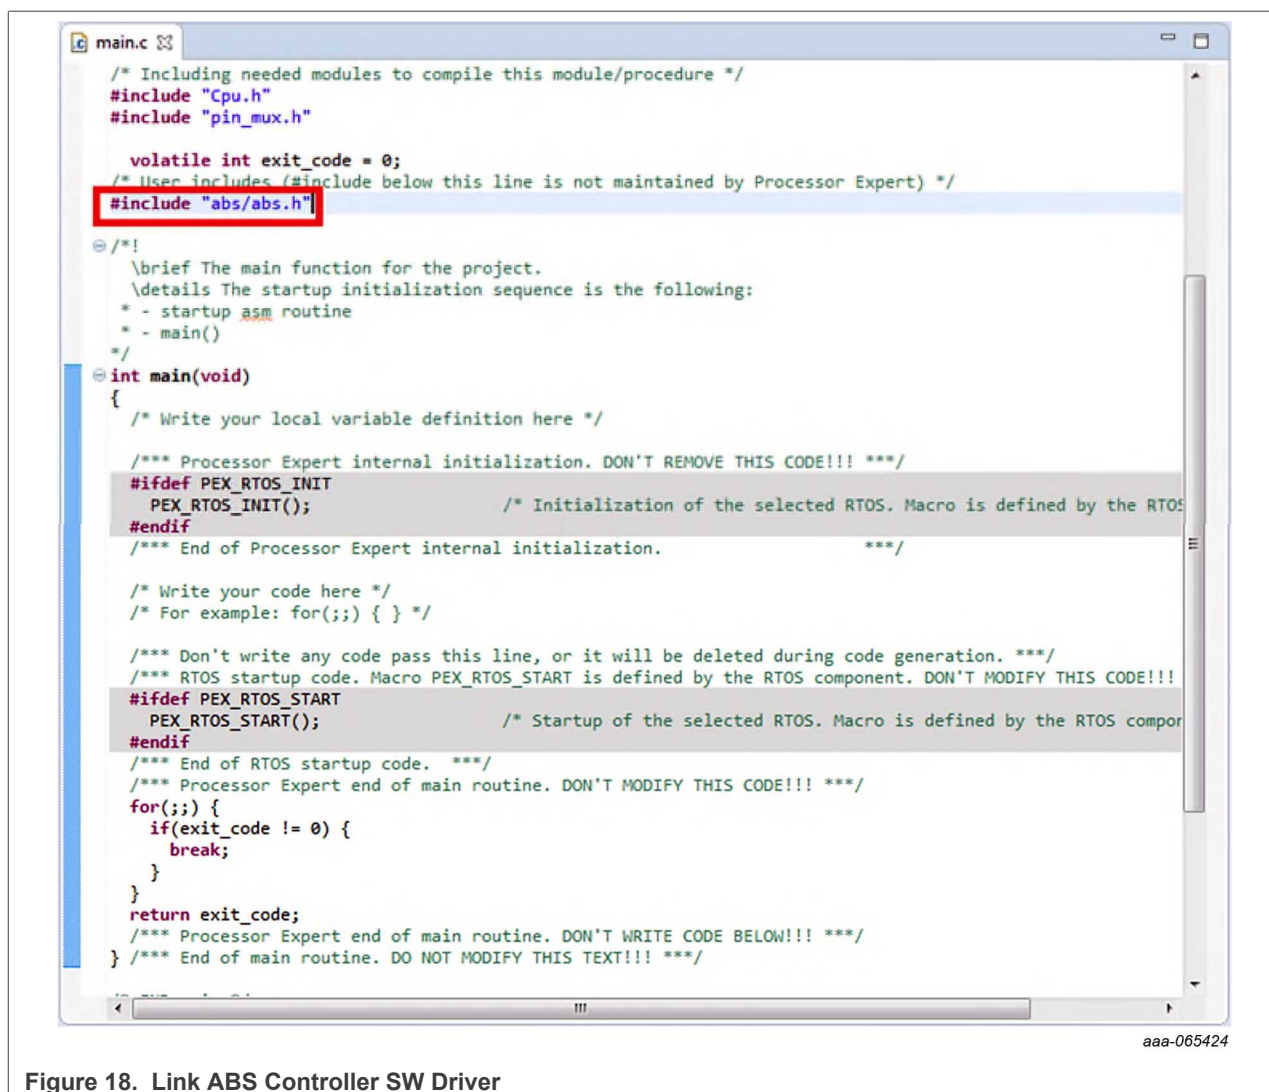

Figure 18. Link ABS Controller SW Driver
2. Add the line highlighted in Figure 18 to **main.c** to access the ABS controller SW driver in user code.